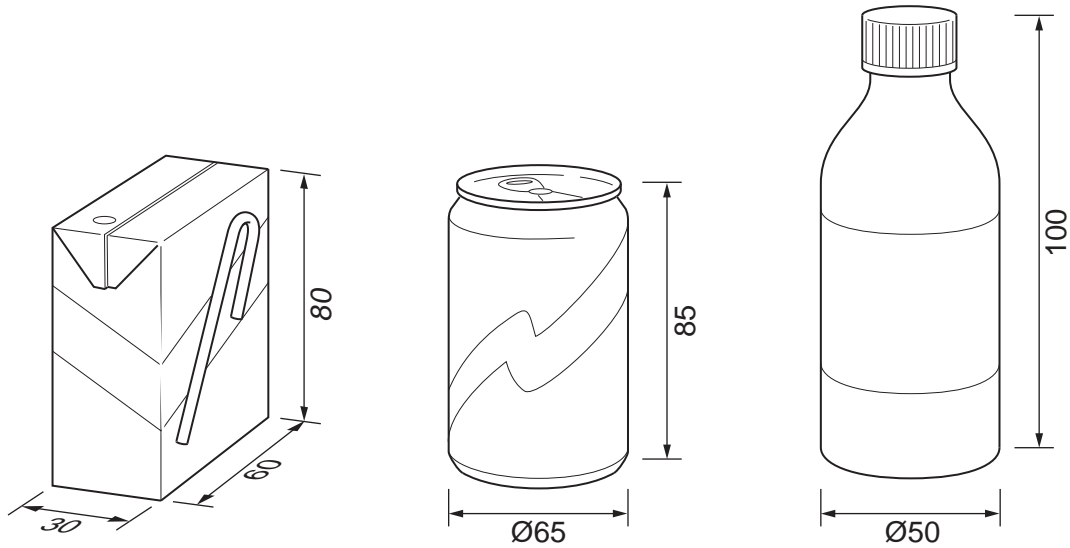

Fig. 10
- 11 A school fête requires litter bins that will encourage visitors to recycle their drinks containers. Design a litter bin that will hold a range of drinks containers made from different materials. It must include a mechanism to reduce the size of metal drinks containers. To assist you in your design, details of drinks containers are given in Fig. 10.